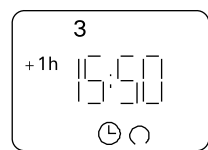

Figure 18.
4. A fourth push **returns** the manual control to the real time display mode, thus activating the program timings recorded in the timer's memory. (Fig. 18)